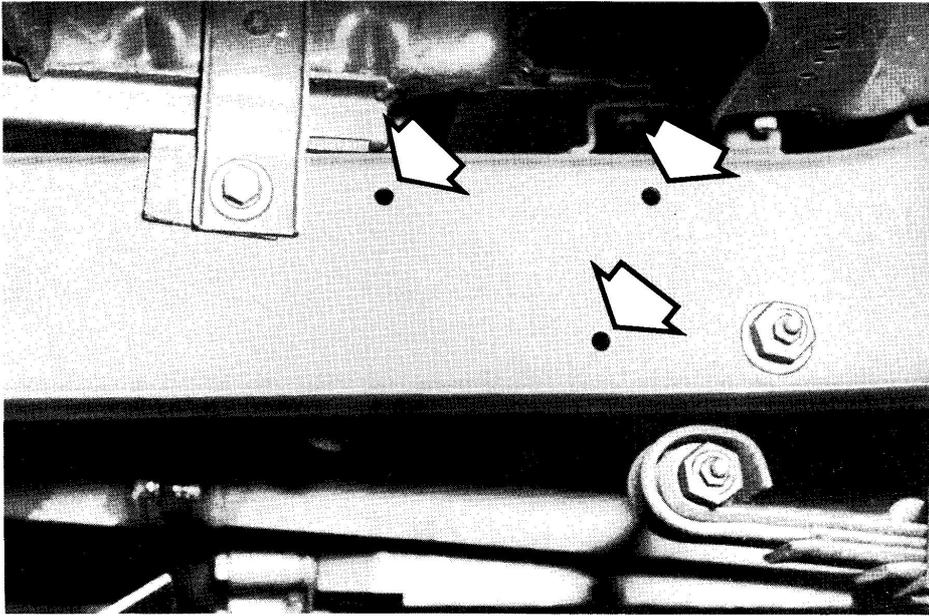

Fig. 7. Holes in vehicle frame member, right side.
- d. Using the existing holes, install the heater by bolting it with the 5/16" bolts supplied in the kit to the right hand frame member of the vehicle, Figs. 7 and 8.